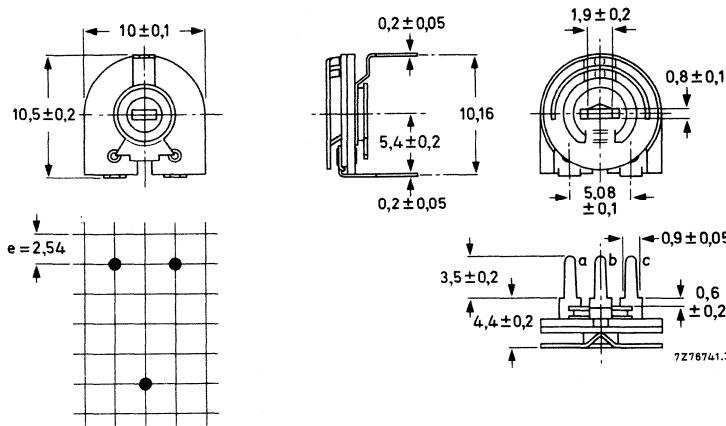

Fig. 5 Potentiometer for horizontal mounting 2322 410 033 ..
- 33 = horizontal mounting (Fig. 5)